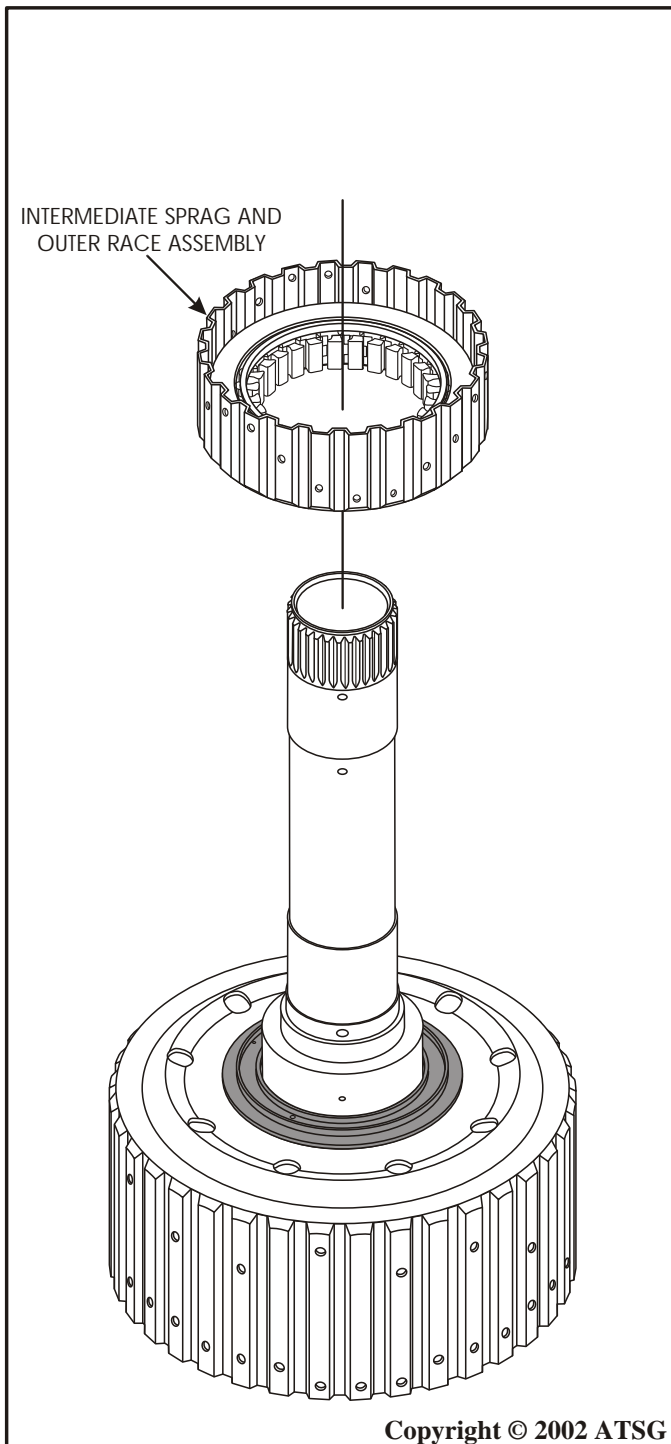

Figure 109
10. Install the pre-assembled intermediate sprag cage and outer race assembly onto the inner race, in the direction shown in Figure 109, by rotating with a clockwise motion.